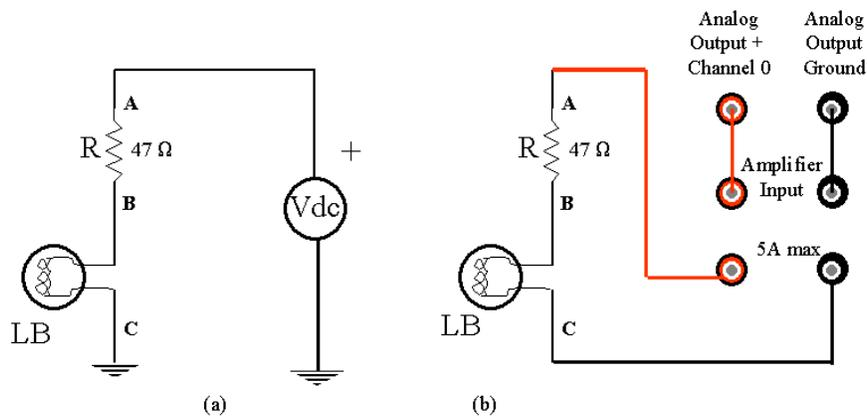

Figure 3.4.3. Light bulb schematic, and the actual connections.
1. The supply voltage will come from the Analog Output of the DAQ board; however, the light bulb draws more current than the DAQ board can safely provide so the current must be amplified. In the next lab we will build our own current amplifiers, but for now, we will use the one provided in the break out box. The circuit that you must construct is shown in Figure 3.4.3. The positive (red) and ground (black) terminals of the Analog Output Channel 0 must be connected to the Power Amplifier Input as the figure shows. The amplifier output, labeled '5 Amps Max', will then deliver the same signal, but is capable of generating 1000 times the current. We don't need nearly that much, but the 5 mA of the DAQ board is not sufficient. The power supply will power the current amplifier and can be connected via the 'Power Supply' terminals directly above the DAQ data cable (this is not shown in Figure 3.4.3). Ensure that the power supply shunts are correctly positioned so that the power supply can provide positive and negative voltages from the two supplies. Then set the supplies to produce +15V and -15V. Turn off the power supply and connect it to the breakout box. Make sure the ground terminal is also connected to a ground terminal on the power supply.